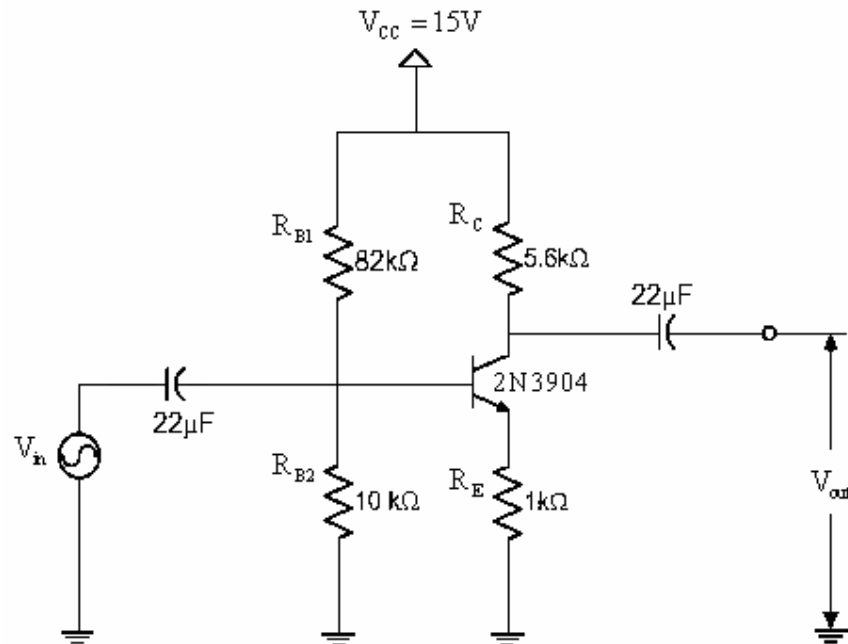

Fig.11: Transistor Amplifier
13. Build the following circuit shown in Figure 11 using the NPN transistor.